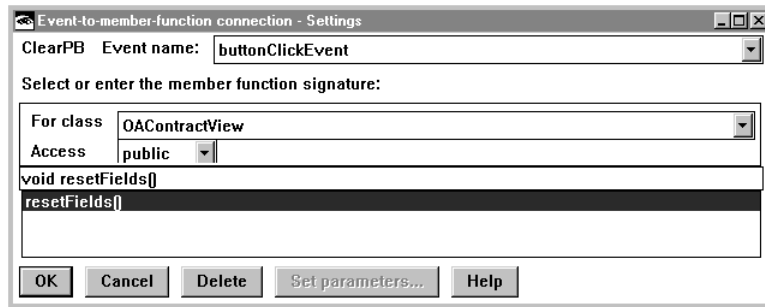

Figure 90. Free-Form Surface Connection Dialog
4. Enter the member function declaration in the entry field as shown in Figure 90 on page 205.